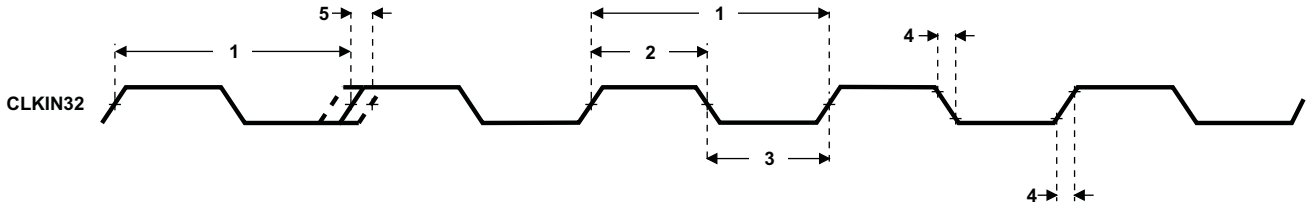

**Figure 7-14. AUX\_MXI/AUX\_CLKIN Timing**
**Table 7-15. Timing Requirements for AUX\_MXI/AUX\_CLKIN (1) (2) (see Figure 7-14)**